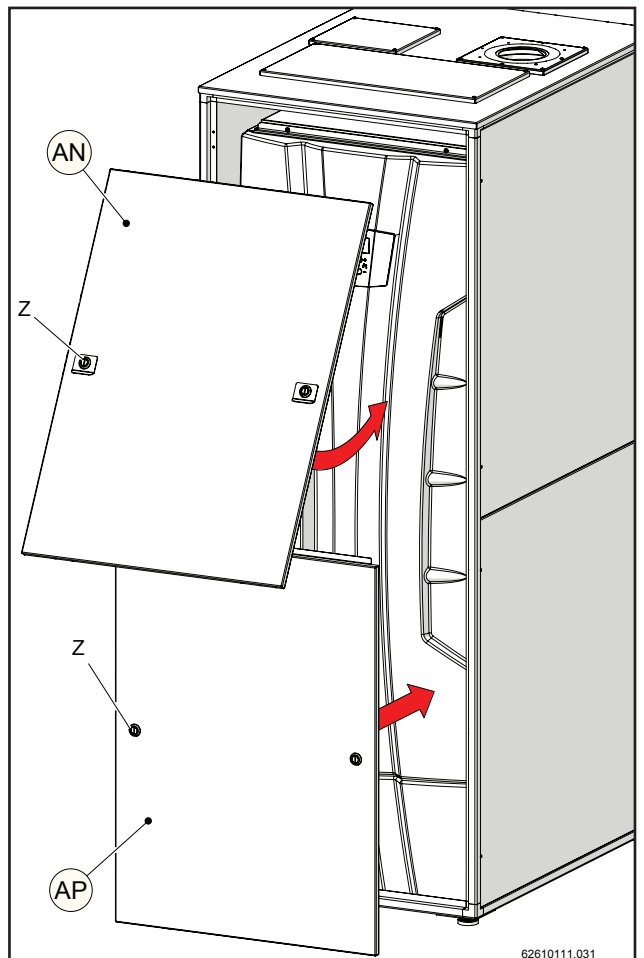
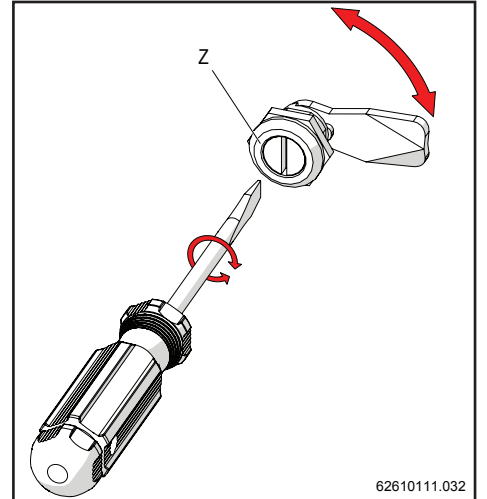

Figure 12-28
Figure 12-30
- 14.- Place the front coverings (AP) (before) and (AN) (after), in the way shown in figures 12-28 and 12-29. Fasten them to the structure by adjusting locks "Z" with a flat head screwdriver (figure 12-30).